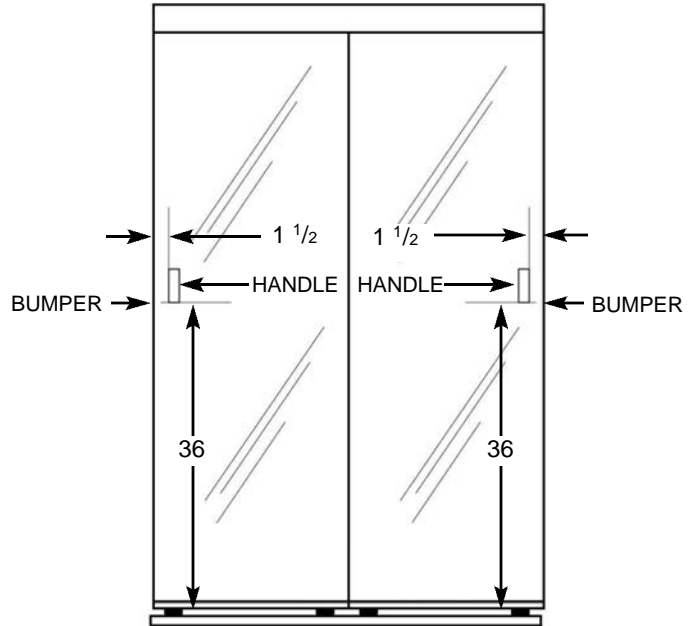

Figure 5
Peel paper off the back of the Clear Plastic Bumpers (#8) and place on the edge of the Panel (#1) frame 36 up from the bottom. The Clear Plastic Bumpers (#8) will cushion and protect the door and wall when you close the wardrobe doors (See Figure 5).
- Clean mirror in the area where the Mirror Handles (#7) will be applied. Peel paper off the back of the Mirror Handles (#7). Position each Mirror Handle (#7) 36 from the bottom of the Panel (#1) and 1-1/2 from Side Mold (#11) on each Panel (#1) (See Figure 5).